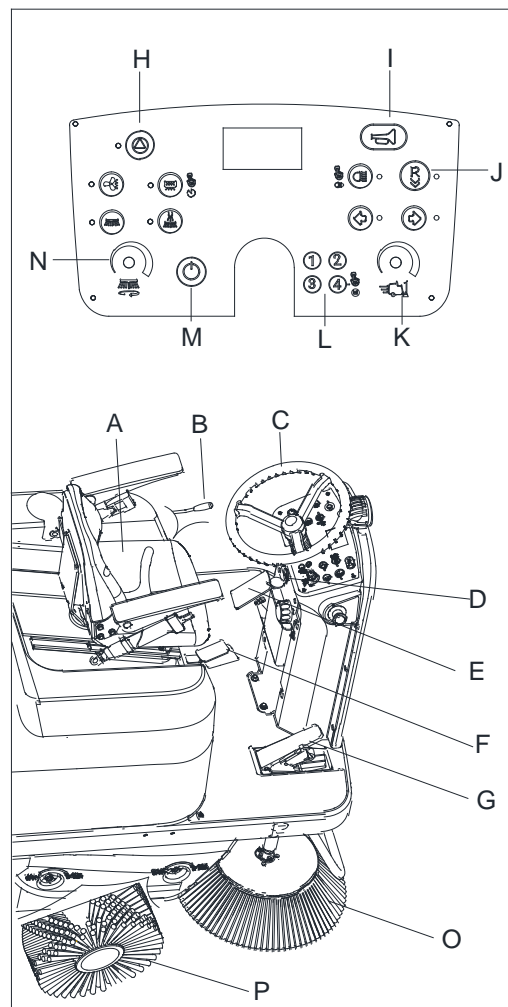

Figure 8
1. Sit on the driver's seat (A, Figure 8) and adjust its position with the lever (C, Figure 8) to allow easy reach of all controls.
2. Press the power button (M, Figure 8). Check the battery level on the display. If needed, charge the battery (refer to the maintenance section).
3. Use the 4-digit pin pad (L, Figure 8) to enter the password. The default password is 1234.
4. After successfully logging in, release the brake (E, Figure 8), press the accelerator pedal (G, Figure 8) and drive the machine to the work area.
5. Press the start button (H, Figure 8) to start the cleaning mode. The side brooms and main broom will automatically lower to the ground, and the dust fan will start working.
6. Press the accelerator pedal (G, Figure 8), and steer the machine by holding the steering wheel (C, Figure 8) while pressing the reverse button (J, Figure 8) to drive the machine forward or backward. Adjust the driving speed using the machine speed dial (K, Figure 8).
7. Adjust the side broom speed using the side broom speed dial (N, Figure 8) according to cleaning requirements.
8. When the machine is on, you can charge devices such as a phone or pad via the USB charging port (D, Figure 8).
9. Press the horn button (I, Figure 8) to warn people when necessary.
The suction system of the machine will only operate when the main broom is lowered. The main broom and side brooms (P and O, Figure 8) can be lifted or lowered even while the machine is running. The main broom and side brooms do not rotate when they are lifted.
10. Start sweeping by turning the steering wheel (C, Figure 8) and driving the machine forward with the accelerator pedal (G, Figure 8).
11. Release the accelerator pedal (G, Figure 8) to stop the movement.
12. Press the start button (H, Figure 8) to turn off the main broom, side broom and dust fan. The main broom and side brooms are lifted from the floor automatically. The dust fan system is turned off after a delay of several seconds.
4. To collect light and bulky waste materials, lift the front blade by pressing the flap pedal (F, Figure 8); take into consideration that the machine vacuum capability is reduced when the front blade is lifted.